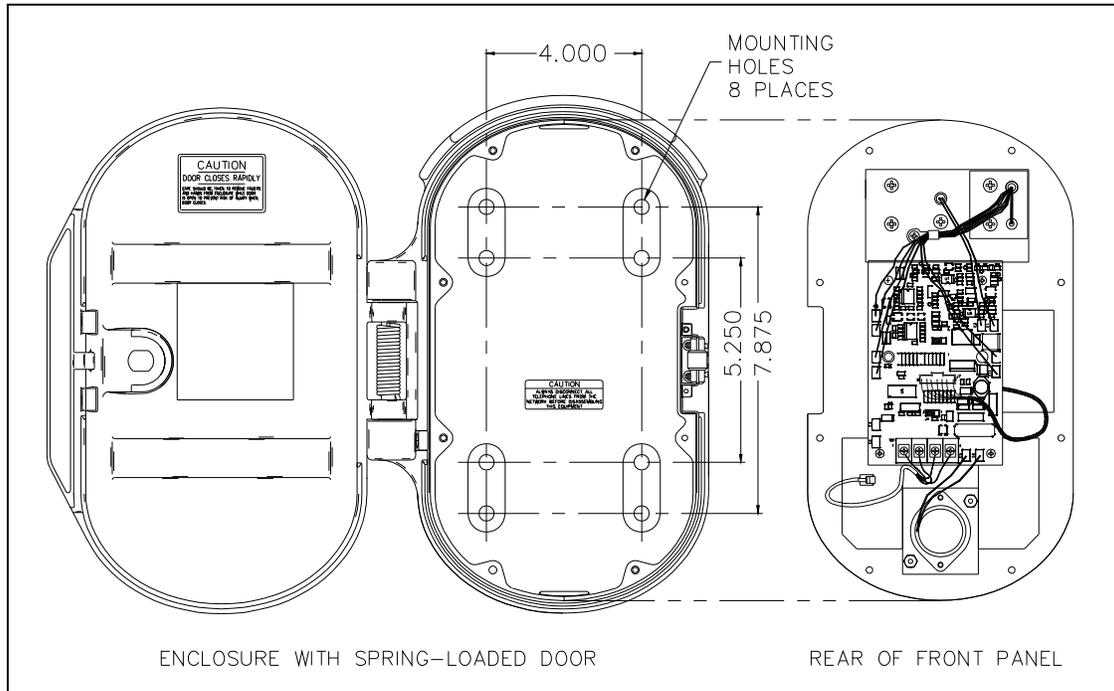

Figure 5. Model 226-001 Outline and Mounting Drawing
2. There are eight mounting holes in the back of the enclosure in two 4-hole patterns. Determine which hole pattern will be used for mounting. See Figure 5.